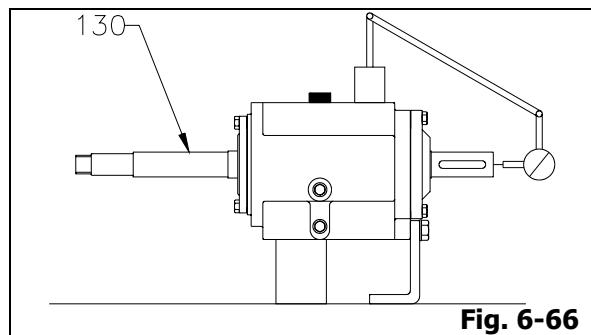

Fig. 6-66
18. Check bearings (311 and 312) axial clearance. Move shaft (130) forward then backward by hand, noting indicator movement. If total indicator reading is greater than 0.05mm, disassemble and determine cause (Fig. 6-66).